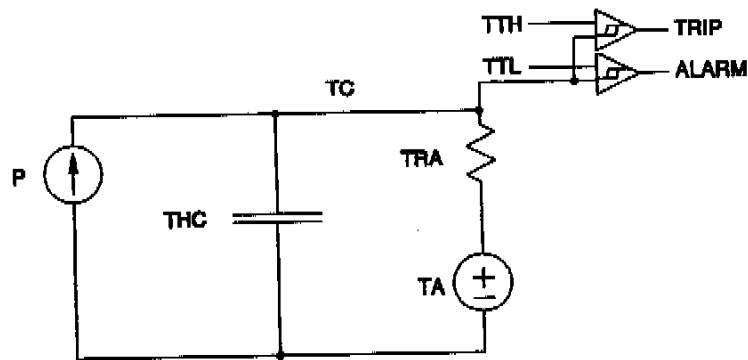

Figure 1: Thermal Model
Figure 1 shows an electrical equivalent of the thermal model used by the SEL-49 relay. The heat power input P is determined from the electrical losses, plus the solar heating (solar heating is estimated from the time of day and relay location, and assumes a clear sky). Computation of the resistive heating component includes the effect of the resistance temperature coefficient. The ambient temperature (TA) may be entered as a constant or taken from a temperature transducer.